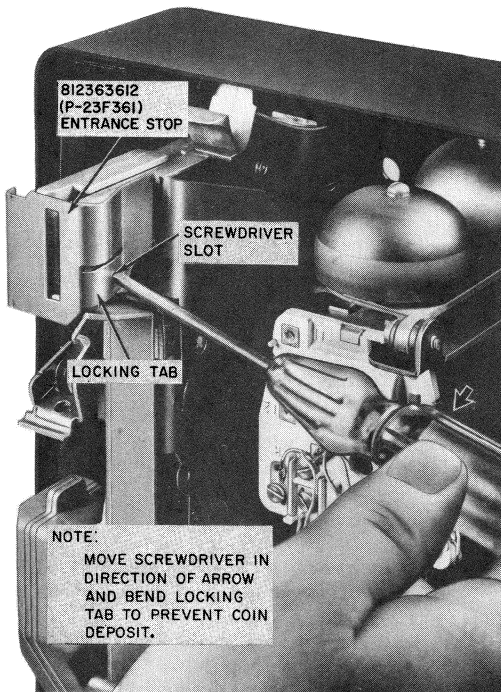

Fig. 60—Operation of Entrance Stop
**Note 2:** Do not install this kit on sets where the entrance stop has been positioned off normal as shown in Fig. 60.
- (1) Remove the 70A or 71A-type coin cover unit.
- (2) Remove the existing information plate.
- (3) Thoroughly clean the surface from where the information plate was removed and around the coin slot using an approved cleaner.
**5.44** The entrance stop (Fig. 60) is installed on the chute to minimize coin losses due to chute stuffing. When the coin release lever or knob is operated or a stuffing condition exists the entrance stop moves sideways and closes the coin slot.
**5.46** A prefabricated locking tab arrangement can be bent with a screwdriver (Fig. 60) to hold the upper plate assembly off normal. This will prevent customer coin deposits in newly installed cointelephonesetsawaitinginitialserviceconnections, or those that are out of service which require further maintenance or repair.
**Warning:** Do not put a set out of service as shown in Fig. 60 if a magnetic coin stop exists, without first removing the coin stop. The magnetic coin stop can be stored in set until service is restored at which time it can be reinstalled. Install an OUT-OF-SERVICE sticker.